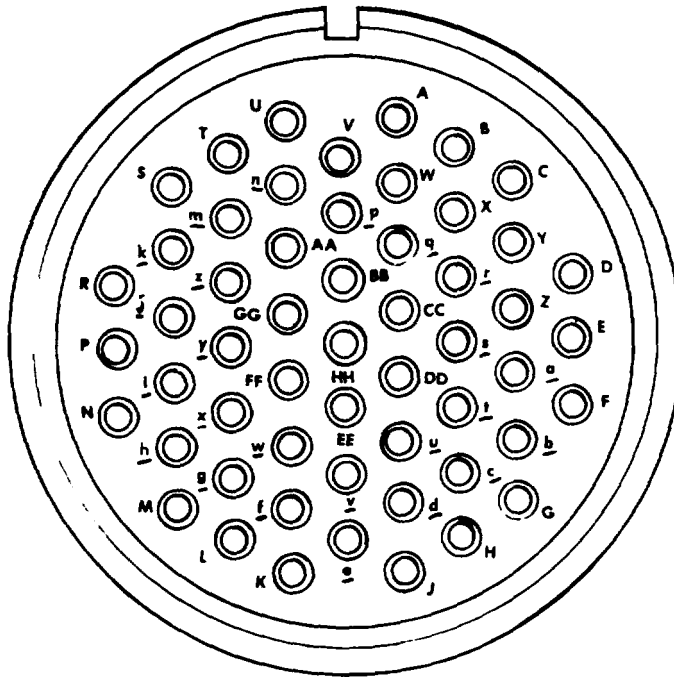

Figure 4-2. Signal Data Converter Connectors NO 1 and NO 2
(7) Disconnect dc power supply from J1 connector pins U, V (+) and EE (-).
(8) LAMP SUPPLY OVERLOAD NO. 2 warning lamp will go ON. Set LAMP SUPPLY OVERLOAD switch to right, lamp will go OFF. If not, see Troubleshooting Table 4-5.
(9) Disconnect dc power supply from J2 connector.
(10) INTEGRAL LIGHTING INT/EXT circuit. Connector digital voltmeter between J1 pin HH (LOW) and FF(HI). Refer to Figure 4-2 for pin locations.
(11) Observe that ON-OFF-SIM ONLY switch is set to SIM ONLY and INTEGRAL LIGHTING is set to INT digital voltmeter will indicate between 4.0 and 6.0 vac, If not, perform Troubleshooting Table 4-5.
(1) Set ON-OFF-SIM ONLY switch to OFF.
(2) Connect digital voltmeter to T1 connector NO 1 pins E (HI) and F (LOW), using two leads (B7). Refer to Figure 4-2 for pin locations.
(3) Set TORQUE NO 1 CAL/NOR switch to CAL and HI/LO switch to HI.
(4) Set ON-OFF-SIM ONLY switch to SIM ONLY. Digital voltmeter will indicate between 3.6 and 3.8 vdc. If not, perform Troubleshooting Table 4-7.
(5) Set TORQUE NO 1 HI/LO switch to LO. Digital voltmeter will indicate between -0.1 and +0.1 vdc. If not, perform Troubleshooting Table 4-7.
(6) Set TORQUE NO 1 CAL/NOR switch to NOR and turn variable control fully ccw. Digital voltmeter will indicate between -0.1 and +0.1 vdc. If not, perform Troubleshooting Table 4-7.
(7) Adjust variable control fully cw. Digital voltmeter will indicate 5.415 vdc minimum. If not, perform Troubleshooting Table 4-7.
(8) Set ON-OFF-SIM ONLY switch to OFF.
(9) Disconnect leads from connector NO 1 pins E (HI) and F (LOW) and connect to connector NO 2 pins a (HI) and b (LOW).
(10) Repeat (3) thru (8) above, except use TORQUE NO 2 controls.